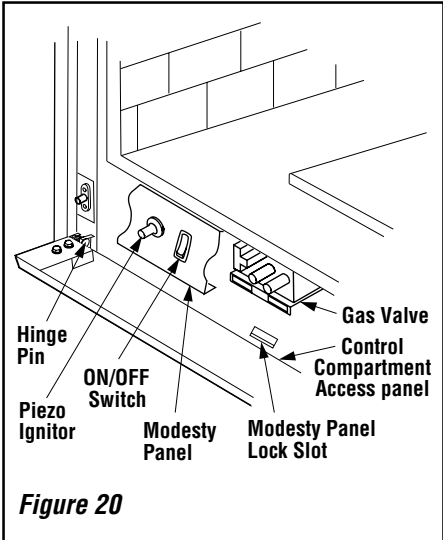

Figure 20
3- Open the control compartment access panel, by actuating the spring-loaded magnetic catches securing the panel, gently depressing the outer top corners of the panel until the catches "pop" the panel free and allowing it to swing out and down to open. *See Figure 20 on page 12.*
3. Remove the bottom control compartment access panel by compressing the spring-loaded hinge pin on the left side until it disengages from the left cabinet panel hole. Pull the panel away from the fireplace. See Figure 20 on page 12.
- 1- Open the control compartment access panel, (**Figure 20**) by actuating the spring-loaded magnetic catches securing the panel, gently depressing the outer top corners of the panel until the catches "pop" the panel free and allowing it to swing out and down to open.
- 2- Remove the bottom control compartment access panel by compressing the spring-loaded hinge pin on the left side until it disengages from the left cabinet panel hole. Pull the panel away from the fireplace. **See Figure 20.**
With gas line installed run initial system check-out before closing up the front of the unit. Follow the pilot lighting instructions provided in the Homeowner's Care and Operation Instructions. For piezo ignitor location see **Figure 20 on page 12** (millivolt appliances only).